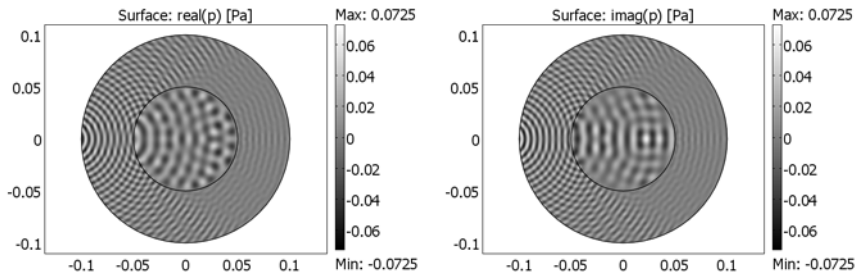

Figure 2-29: Real (left) and imaginary (right) parts of the acoustic pressure field.
The incoming and scattered waves are most easily distinguishable in the grayscale plots in Figure 2-29 of the pressure field's real (left) and imaginary (right) parts. (Because COMSOL Multiphysics by default plots the real part of a time-harmonic variable such as $p(\mathbf{x}, t) = p(\mathbf{x})e^{i\omega t}$, the plots in Figure 2-28 and the left panel of Figure 2-29 depict the same quantity.)
Proceed to generate the plots in Figure 2-29 with the following steps:
- 9 Click **Apply** to generate the plot in the left panel of Figure 2-29.